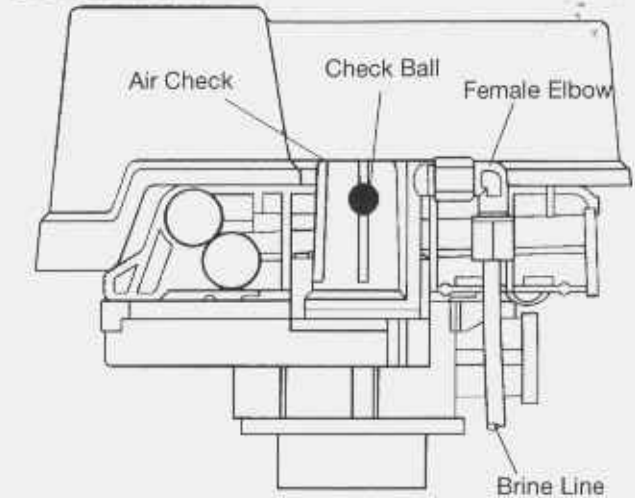

Figure 7 - Control Valve
- Carefully advance pointer knob **COUNTERCLOCKWISE** to center of **FAST RINSE/REFILL** position and hold there until air check (Figure 7) fills with water and water starts to flow through brine line into brine tank. Do not run for more than two minutes.